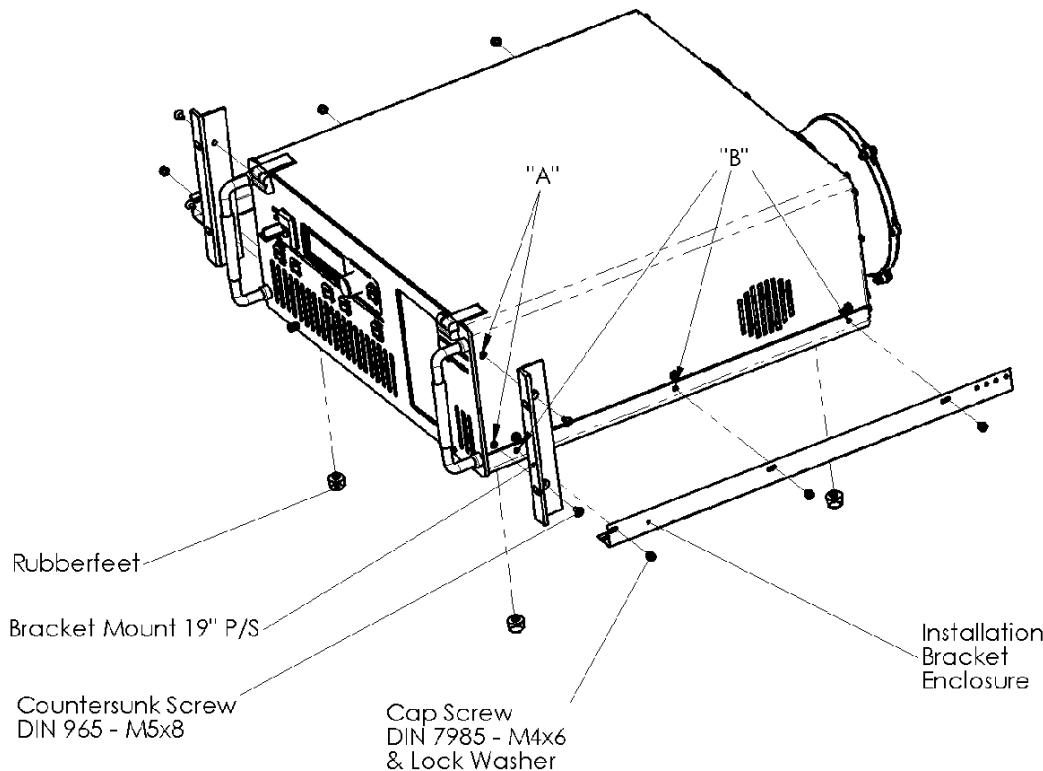

Figure 3-20. Power Supply Rack Mount Option
1. Remove the 4-cap screws and remove the lock washers from position A on both sides of the power supply (see Figure 3-20).